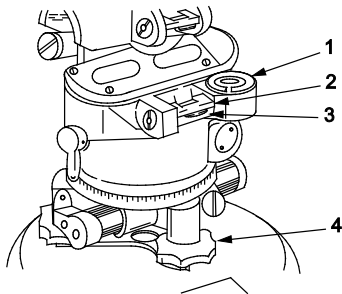

Figure 1. Aiming Circle Levels and Controls.
1. The circular level (Figure 1, Item 1) is used for coarse leveling of the Aiming Circle, while the tube level (Figure 1, Item 2) is one of two tube levels that are used for fine leveling of the Aiming Circle.
2. The cover (Figure 1, Item 3) protects the tube level vial from possible breakage and is to be rotated to open or close it.
3. The leveling screw knob (Figure 1, Item 4) is one of three screw knobs that are used to center the bubble in the tube level and circular level. Rotating the knob clockwise will raise the instrument, while rotating the knob counterclockwise lowers the instrument.